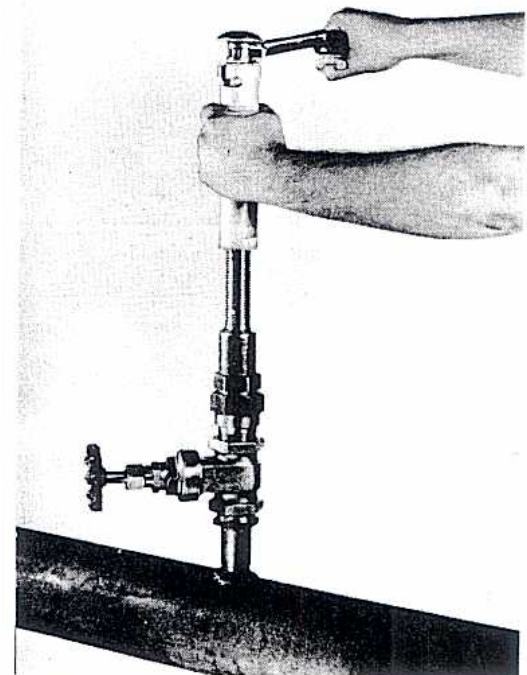

FIGURE 47
3. Drill the hole by operating the ratchet handle **clockwise** and turning the feed sleeve **clockwise** a little at a time. FIGURE 47. Use a light even feed at the start, then a heavier feed and finish with a light even feed. When drilling small holes, the crank handle should be turned upward and rotated in continuous circles instead of ratcheting.